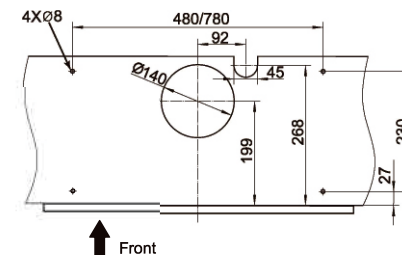

Fig.10
2. Drill a hole of 140mm diameter, 4X $\phi 8$ mounting holes and one clearance for power cord on the cabinet board, respecting the distance indicate in Fig.10.